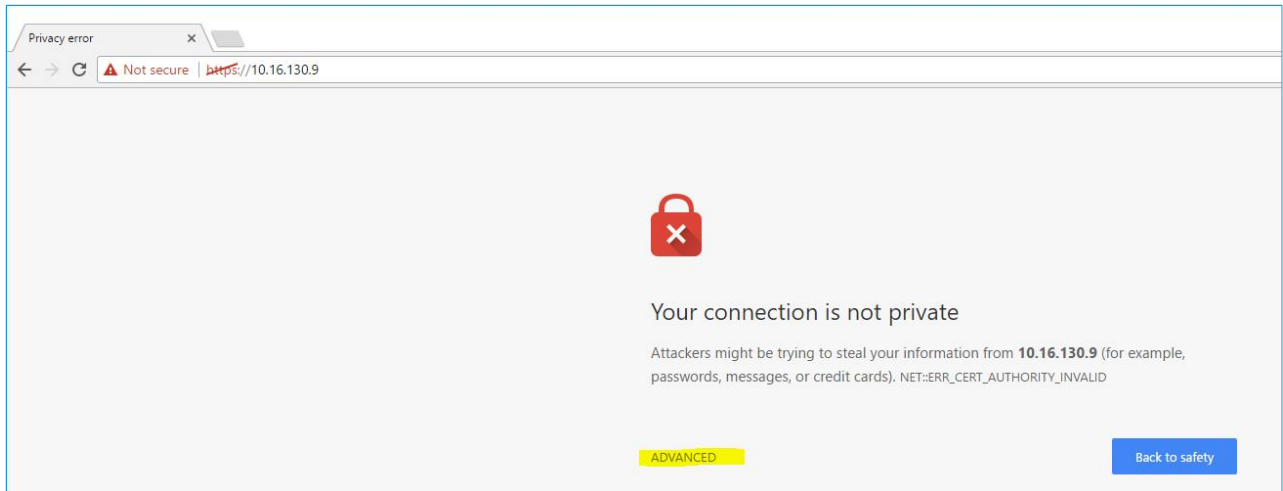

Figure 9: Web interface – first screen
4. Click **Advanced** (*Figure 9*).